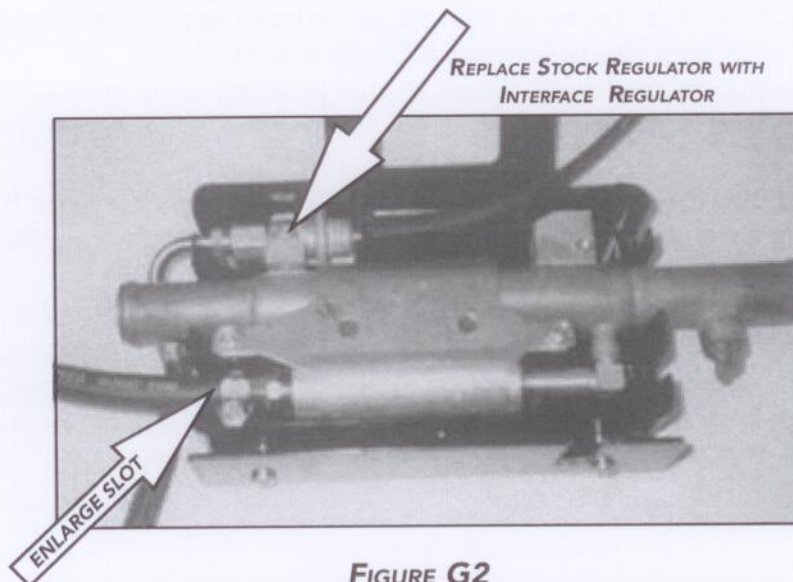

FIGURE G2
7. With a round file, enlarge the slot in the end of the fuel box and cover to allow for the supplied 3/8" fuel line. Install supplied fuel system interface and fuel cooler into box (see figure G2). Connect the fuel outlet line from the fuel pump to the barb fitting on the rear of the interface and secure with hose clamp. Re-install retaining bracket and plastic cover. Reattach the bracket to the motor.